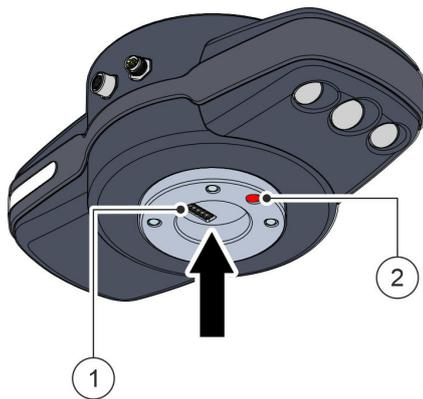

Fig. 61 Connecting the internal interface
02. Align the tool correctly using the hole for the dowel pin Fig. 61 / ② and the internal 12-pin interface Fig. 61 / ①.
In doing so, ensure that the electrical tool connection is correctly connected to the internal 12-pin interface Fig. 61 / ①.